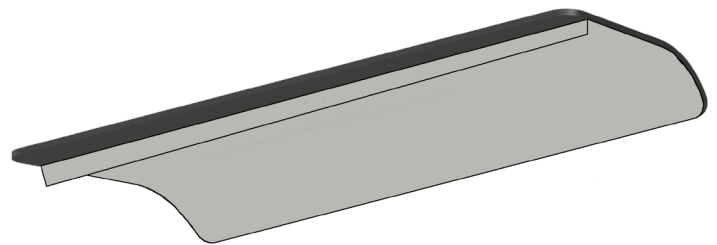

Fig.7
2. Peel the backing tape on the traction pad about 1" along its longest edge (Fig. 7).